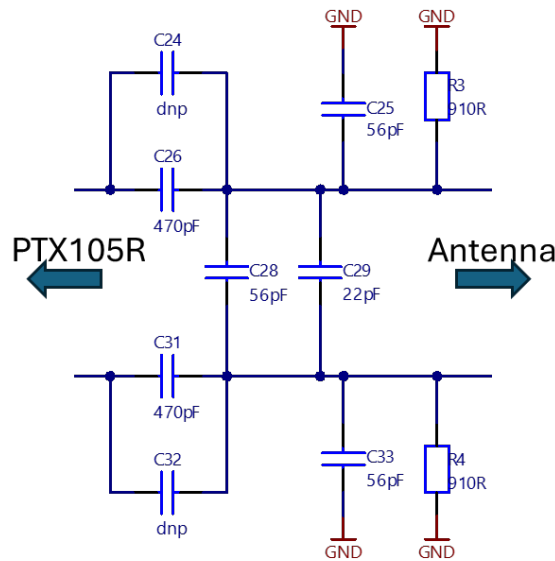

Figure 4. Matching Topology and Component Values
- Figure 4. Matching Topology and Component Values4
The target matching impedance at 13.56 MHz is $Z = 5 \text{ Ohm} + j*0 \text{ Ohm}$, with a quality factor in the range of 15. To achieve this, use the matching topology with the component values shown in Figure 4.